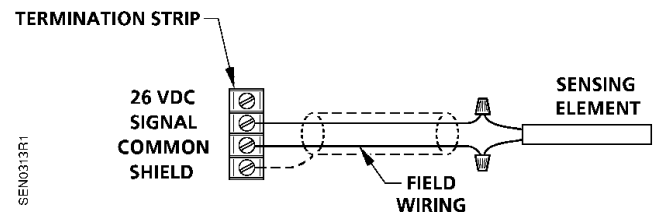

Figure 3. Wiring Diagram.
4. Connect the field wiring to the controller as shown in the wiring diagram. See Figure 3.
9. Connect the field wiring at the controller as shown in the wiring diagram. See Figure 3.